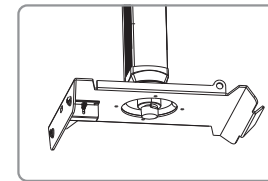

Figure 4
1. Press the release button for separating the top bracket⑦ and low bracket⑧ , refer to figure 3 and figure 4. Then, adjust the half-cycle junction⑤ and ensure that the groove of half-cycle junction to be align the direction of security lock⑨ , and then put it on the subsidiary bar after assembling. Finally, the glider is installed on the half-cycle junction for fastening the main bar⑥ as the figure.